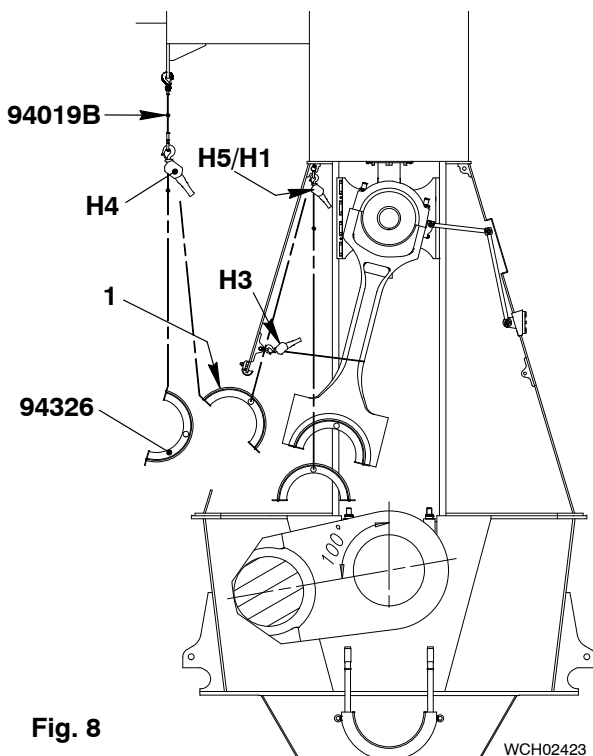
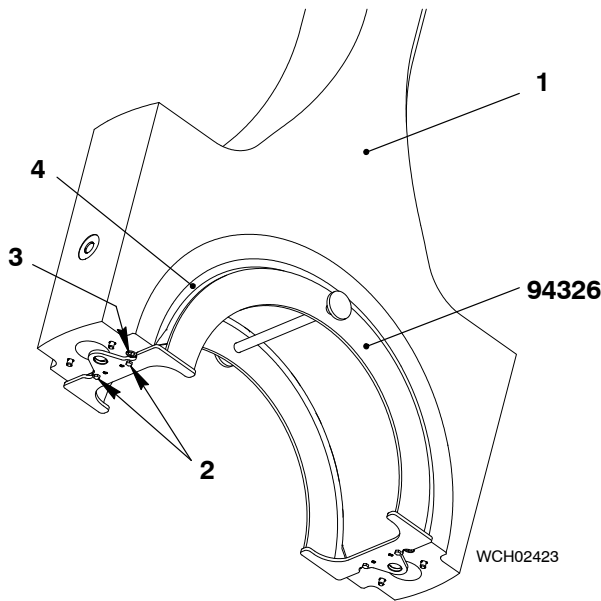

Fig. 8
Fig. 9
- 6) Operate the manual ratchets (H5, H1 Fig. 8) to lower the console frame (94326) together with the bearing shell (1).
- 9) Lower the console frame (94326) and bearing cover (1) to an applicable area.
- 2) Put the bearing shell on the console frame (94326, Fig 9).
- 3) Tighten the four screws (2).
- 4) Clean the seating surface of the connecting rod (1) and the bearing shell (4).
- 7) Attach the manual ratchets (H5, H1 Fig. 8) to the console frame (94326).
- 11) Attach the bearing shell (4, Fig 9) to the connecting rod (1) with the two screws (3).